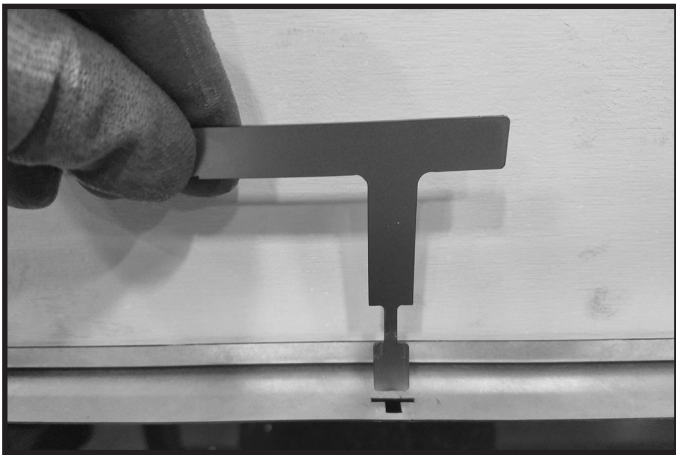

Figure 13 Pull Tool Inserted Into Slot
6. Insert pull tool into slots on left and right sides of appliance. See Figure 13.